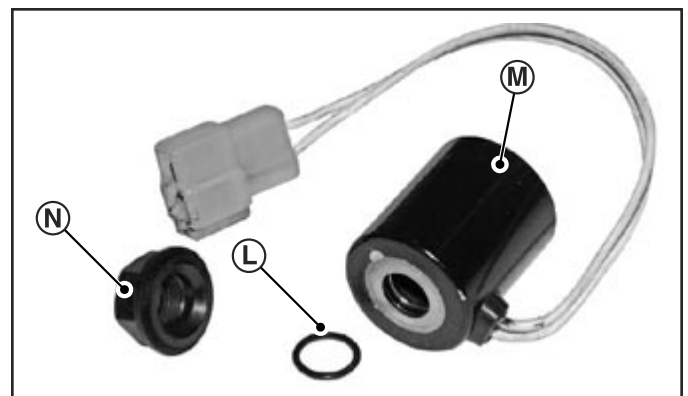

Fig. 10, Solenoid Coil
8. Slide solenoid coil (M) onto solenoid armature. Install O-ring (L) and plastic nut (N) (do not tighten plastic nut at this time.) (Fig. 10)
- Position solenoid coil wire leads (P) to the right and approximately 45° above horizontal.